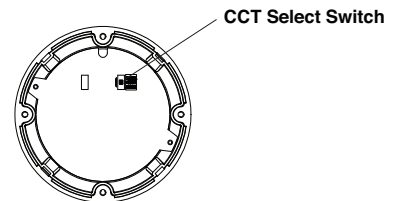

Fig. 9
8. Set the desired CCT (Fig 9) by the switches.